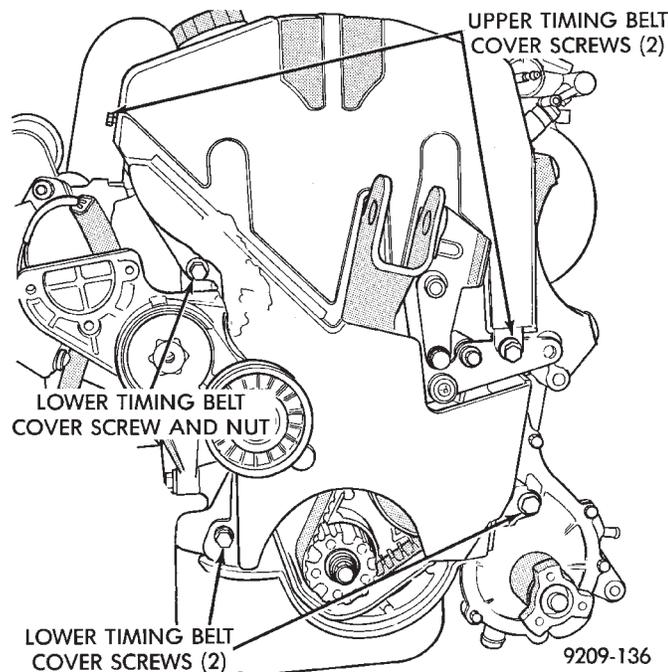
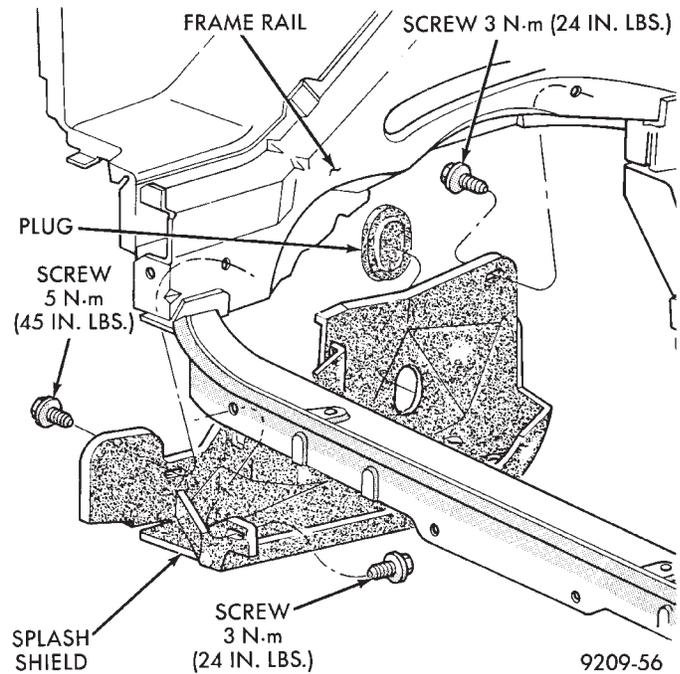

Fig. 1 Timing Belt Cover Screws
Fig. 2 Right Inner Splash Shield
- (1) Remove PCV tube and upper timing belt cover screws (Fig. 1). Remove upper cover.
- (2) Remove accessory drive belt. Refer to Cooling System Group 7 for procedure.
- (3) Raise vehicle on a hoist and remove right wheel and inner splash shield (Fig. 2).
- (6) Remove lower timing belt cover fasteners (Fig. 1). Remove cover.
(4) Install inner splash shield and wheel (Fig. 2).
(5) Install accessory drive belt. Refer to Cooling System Group 7 for procedure.